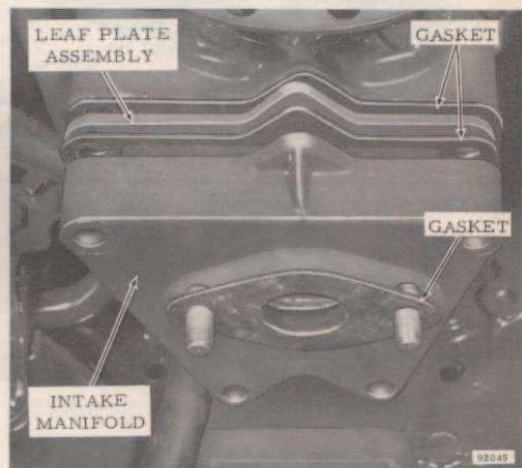

Figure 3-4. Removing Manifold and Leaf Plate Assembly
- Attach leaf plate to power head using new gaskets on both sides of plate. See Figure 3-4.